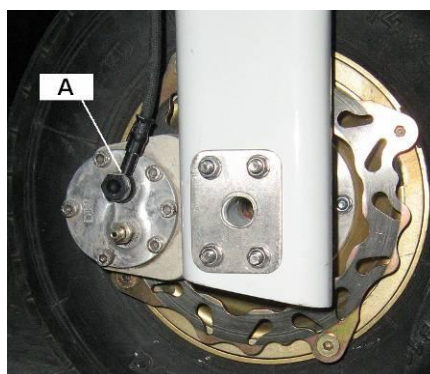

Fig. 5
2. Unscrew the connector A 1 to 2 turns on the right wheel using a 7x8 wrench (Fig. 5).
4. Tighten the connector A (Fig. 5) using a 7x8 wrench up to torque 80 lb-in / 9 Nm). Disconnect the syringe.
6. Screw in the connector A (Fig. 5) by a 7x8 wrench.
8. Unscrew the connector A 1 to 2 turns by a 7x8 wrench (Fig. 5).
11. Screw in the connector A by a 7x8 wrench (Fig. 5).
15. Unscrew the connector A (Fig. 5) 1 to 2 turns by a 7x8 wrench.
18. Tighten the connector A (Fig. 5) up to torque 80 lb-in / 9 Nm by a 7x8 wrench. Disconnect the syringe.